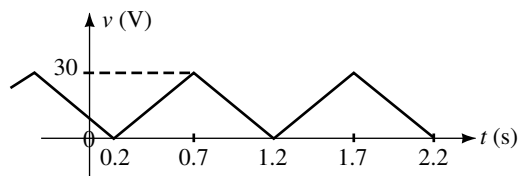

FIGURE 25-57
12. Repeat Problem 11 for the waveform of Figure 25-57.